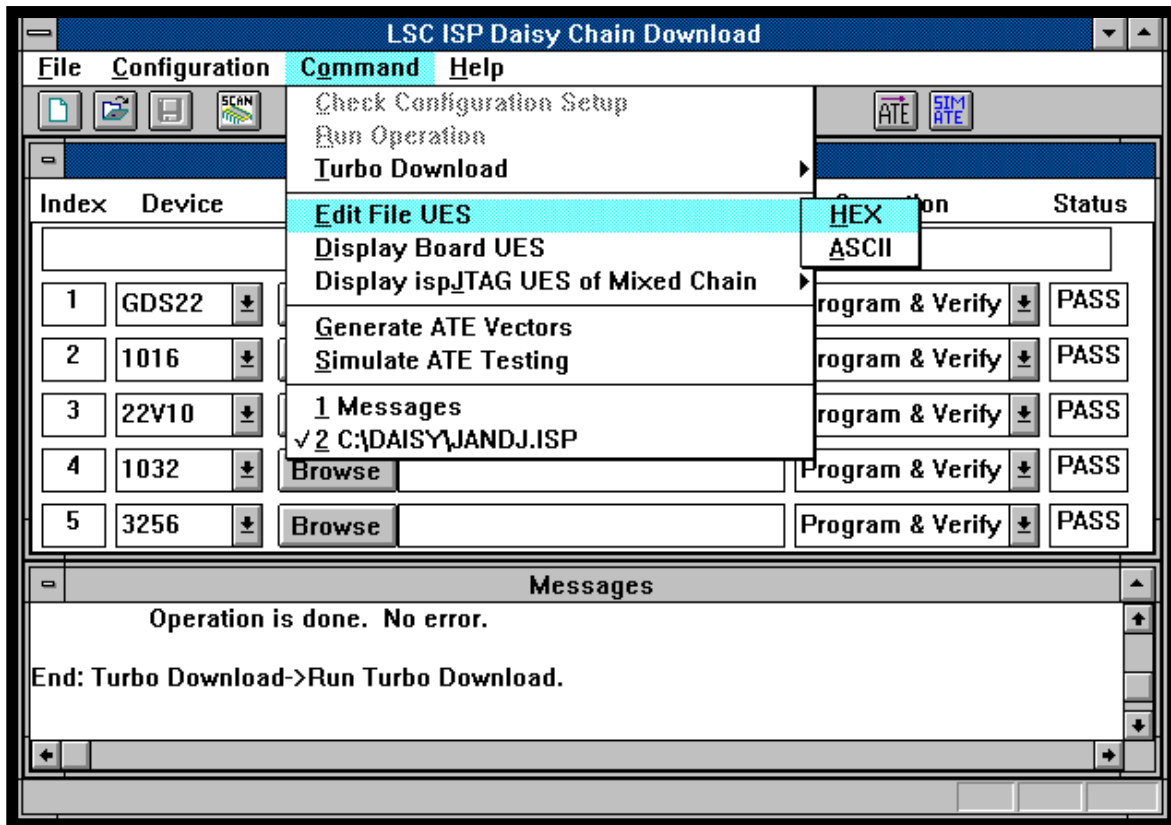
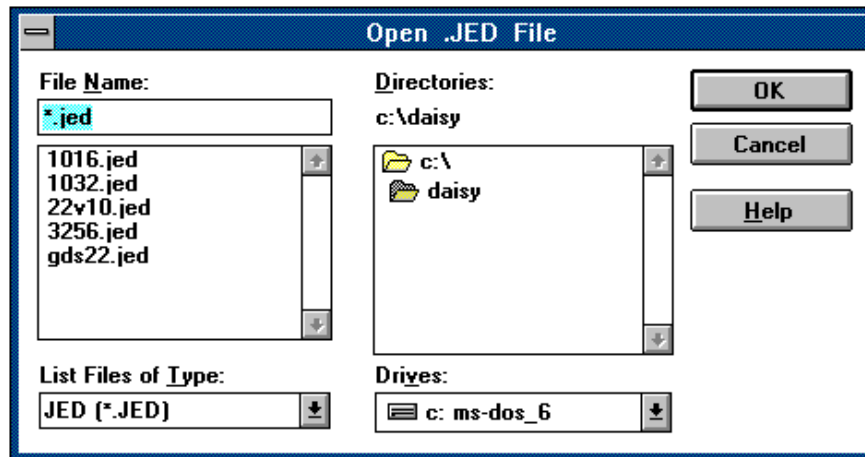

Figure 3-19. **Command** ⇒ **Edit File UES** ⇒ **HEX** Menu Option
Figure 3-20. Open .JED File Dialog Box
1. Select **Command** ⇒ **Edit File UES** ⇒ **HEX** or the **write UES** icon from the ISP Daisy Chain Download menu to edit a UES (Figure 3-19). The icon defaults to hexadecimal format. You may also select the **ASCII** option. The Open .JED File dialog box appears (Figure 3-20).